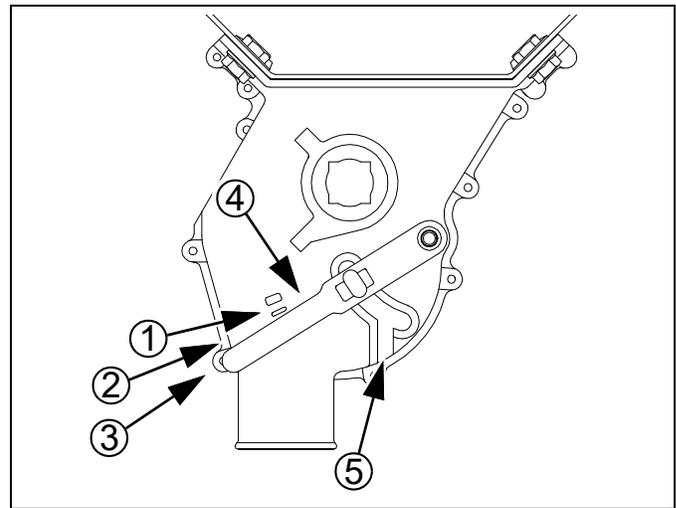

Figure 17
Refer to Figure 17, which depicts the seed cup door handle in position ③.